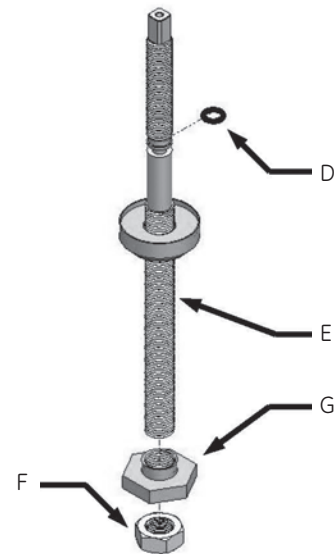

Figure 37 – Bearing Nut Assembly
Step 1: Slide a 108 O-ring (D) onto the adjusting screw (E) as shown in Figure 37.